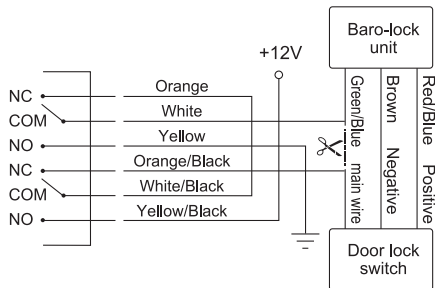

Fig.5 Baro-lock circuit
4. If the formerly installed central control door lock is driven by baro-switch, which works successively with a control line in the driver's door and the operation of the lock can turn the control line into positive or negative trigger, you can choose a disjunction circuit. (Fig.5 baro-lock circuit diagram)